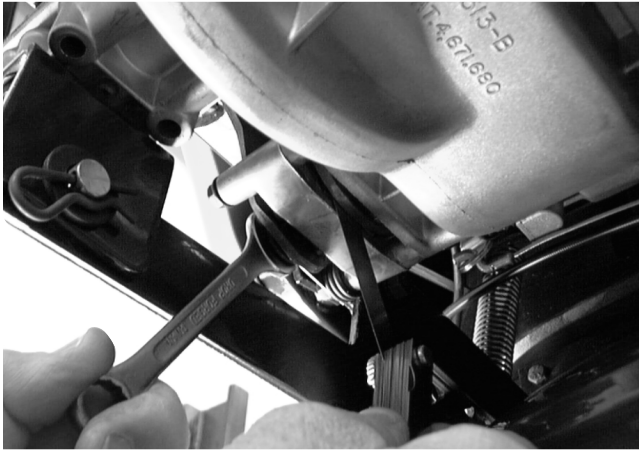

FIGURE 4.
- 10). Slide an .011" feeler gauge between the brake disc and the brake puck. See figure 4.
- 11). Tighten the locking hex nut until the .011" feeler gauge is snug. See figure 4.